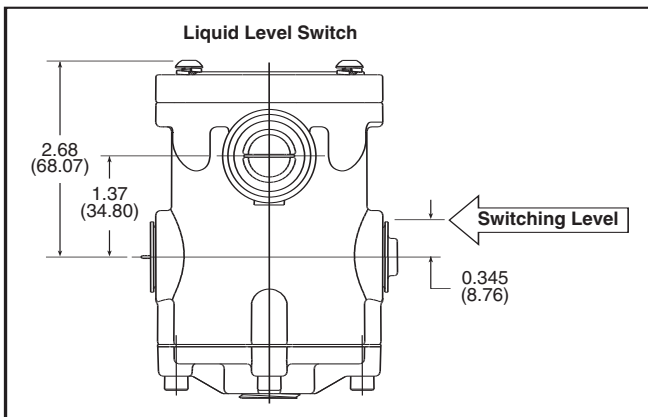

Figure 1 - Switching Level
Step 1 - Mount the Liquid Level Switch to a solid structure so that the switching level (see Figure 1) is equal to the level that the switch needs to activate.